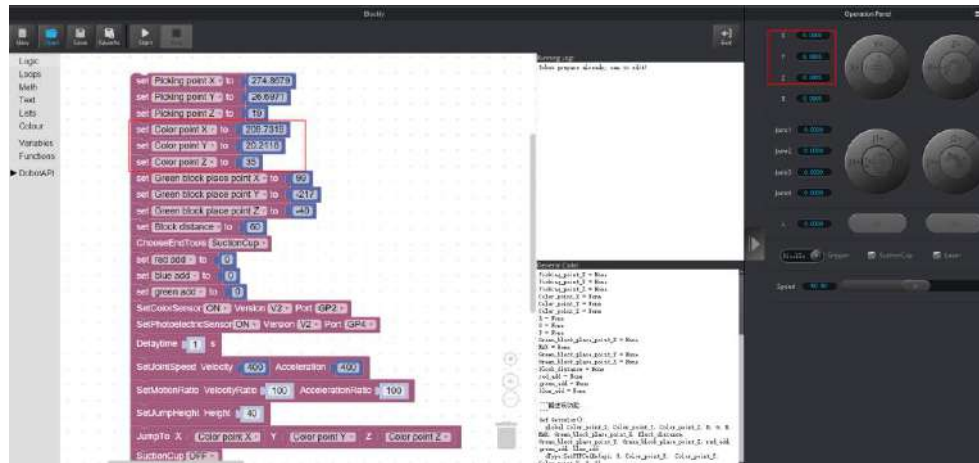

Figure 4.9 Modify color- identified position
- The operation panel on the DobotStudio will record the values of X, Y, Z axes automatically, and write the values of the X, Y, Z axes in the sorting demo as shown in Figure 4.9.